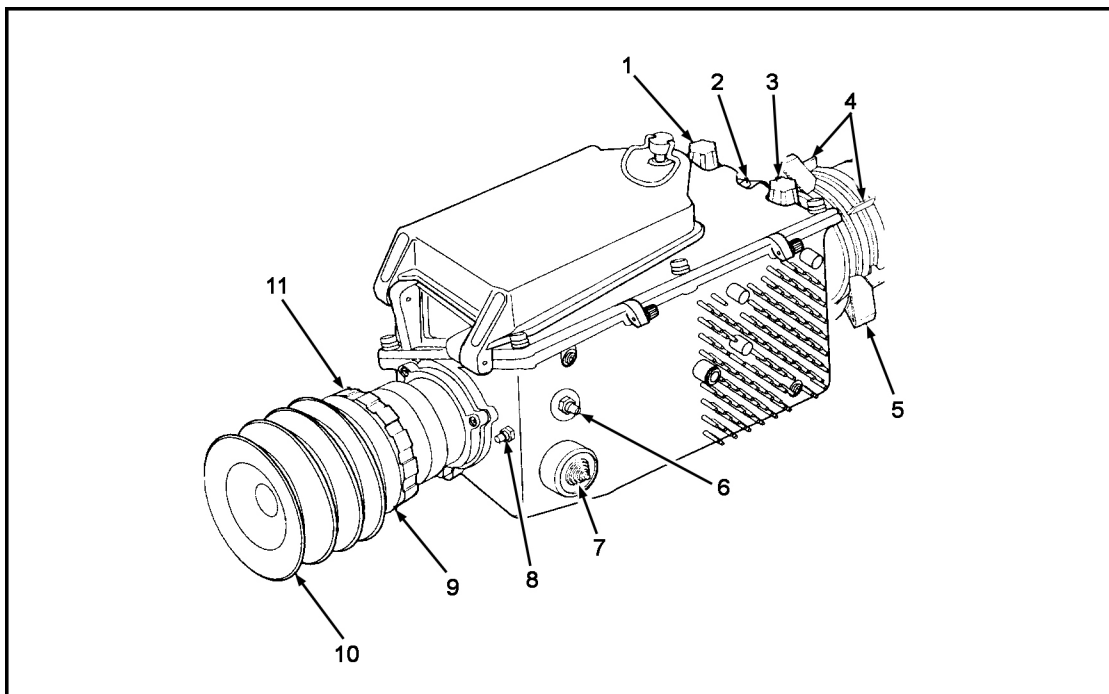

Figure G-10. Location of the HWTS controls and indicators.
c. **Controls and Indicators.** Controls allow the gunner to configure the sight to the situation and individual preferences while the indicators display the current configuration (Figure G-10 and Table G-3).
(1) The CONTRAST CONTROL adjusts the contrast of the thermal image displayed on the raster. It has an automatic and a manual mode.